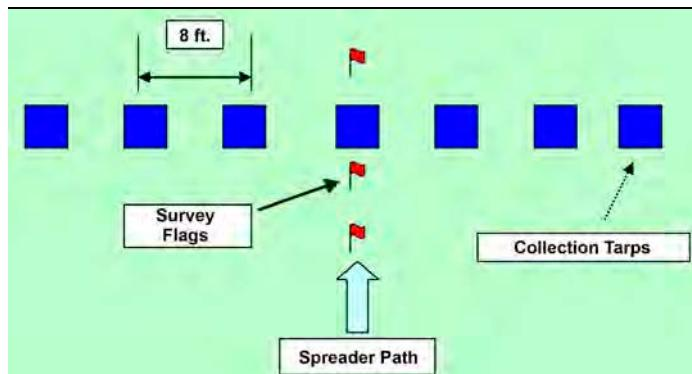

Figure 3. Tarp layout for calibrating manure spreader.
2. Lay tarps out equally spaced in a line perpendicular to the travel of the spreader (Figure 3). Eight-foot (on-center) spacing is typical, but spacing may be more or less depending on how far the spreader throws manure. Fasten tarp at each corner with a tent stake or long nail through eyelets.